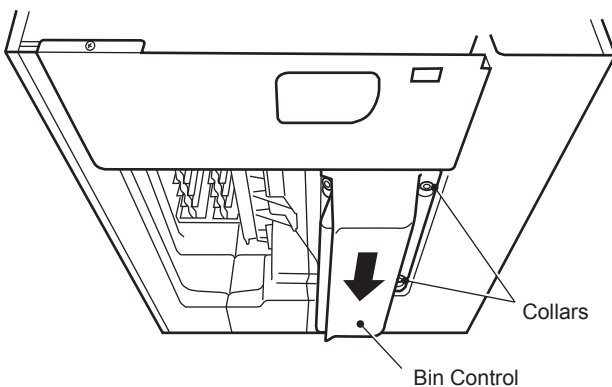

**Fig. 3**
- 6) Pull out the Water Tank, Cube Guide, Pump Motor Bracket, Pump Motor and Float Switch together. See Fig. 3.